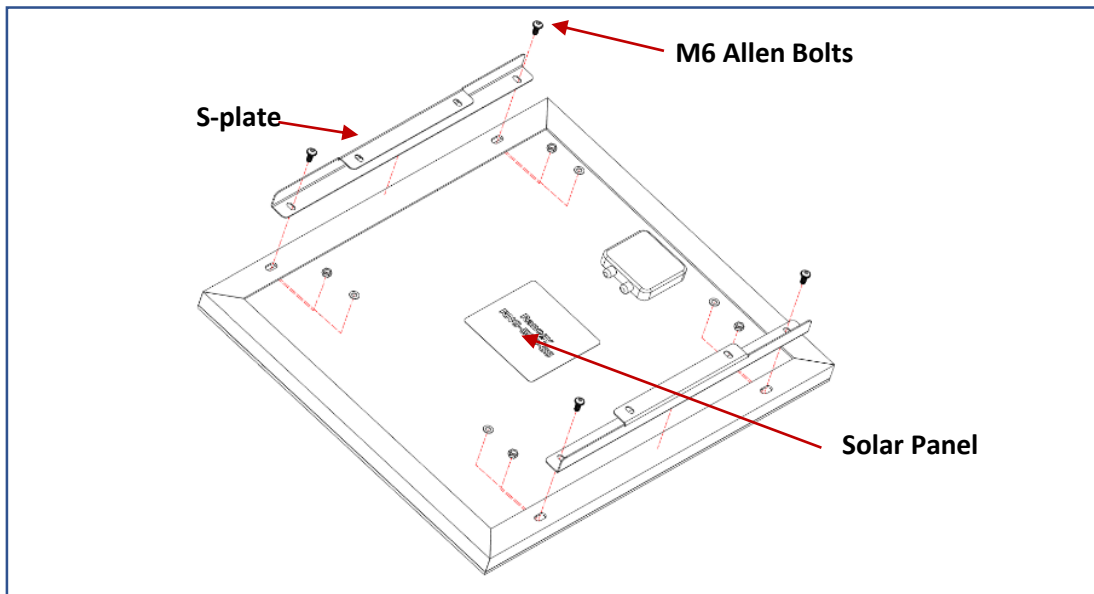

Fig. 3
STEP 2: Join S-plates(P4) to Solar panel using M6 Allen Bolts, M6 flat Washers and M6 Lock Nut using 5 mm Allen Key. Fig. 3